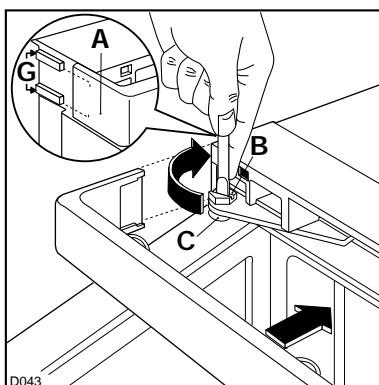

Fig. 9
4. Position the washer (C) under the upper hinge on the opposite side (Fig. 9), refit the upper door and retighten the pin (B) on the opposite side (Fig. 9).
5. Refit the control panel strip (A) ensuring that the side runners (G-Fig. 9) slot into the grooves on the control panel strip.